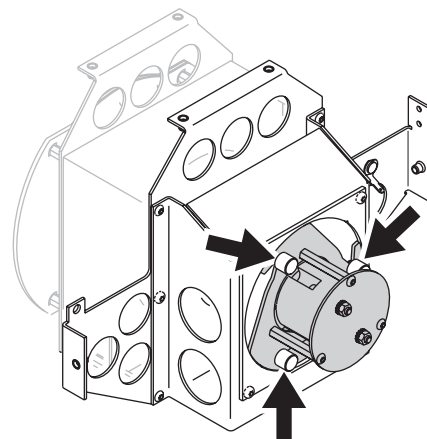

**Figure 19: Slider lock**
3. See Figure 19. Pull out the slider locks in the sliders on each side at the front of the housing and slide the lamp/effects assembly out of the housing, avoiding strain on internal wiring. Note that a lamp cutout mechanism is activated as soon as the assembly is moved from its normal position.